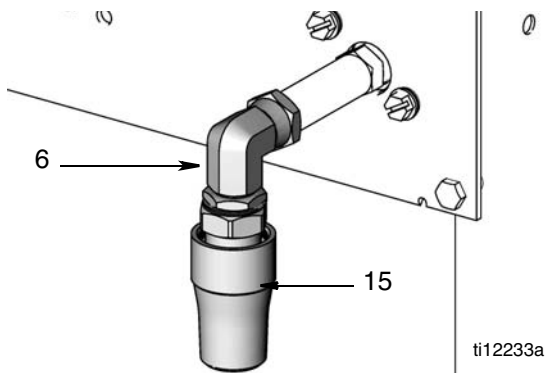

FIG. 26
- Unscrew nipple adapter (13), elbow (6) and swivel nozzle (15) assembly and remove assembly from manifold (14) (FIG. 26).